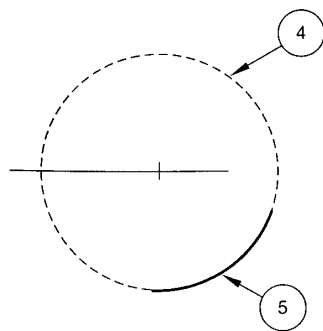

FIGURE 2.23 ■ Steps 4 and 5, darken the circle.
Step 4. Lightly sketch the circumference over the tick marks to complete the circle, then darken it (step 5) as shown in Figure 2.23.